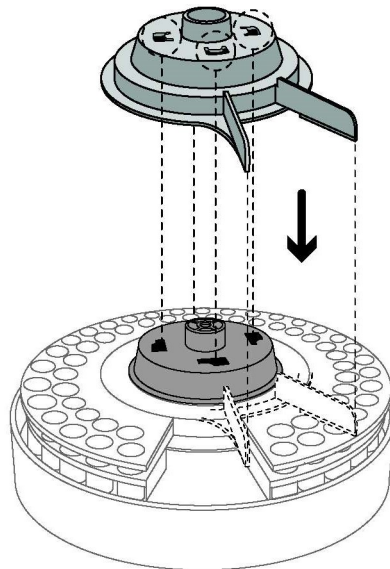

Figure 61 Place the turret hubcap onto the turret hub
- 4 Place the turret hubcap onto the turret hub. Be sure to align the slots on the turret hubcap with the slots on the turret hub as shown in Figure 61.